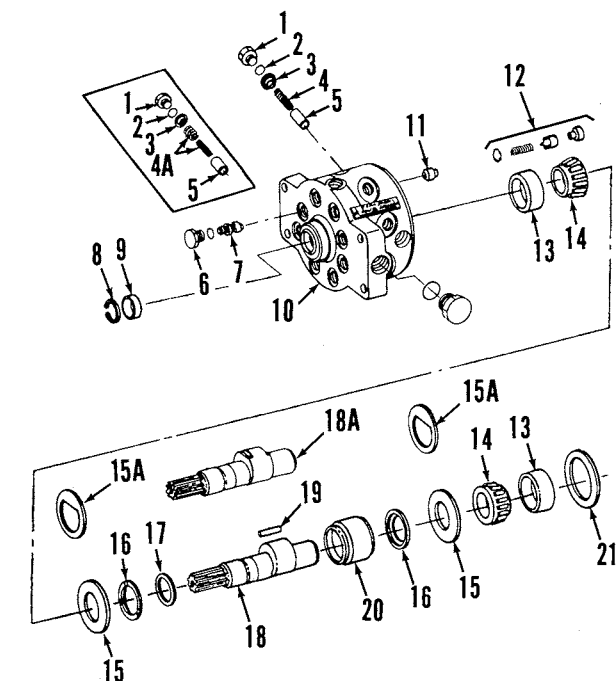

Fig. 229—Exploded view of main hydraulic pump used on all models. Refer to Fig. 232 for pump stroke control components.
218. OVERHAUL. Before disassembling the pump, write corresponding numbers on the pump housing and each of the piston plugs (1—Fig. 229) and scribe indexing marks on pump housing (10) and stroke control valve housing (25—Fig. 232) to ensure correct reassembly.
NOTE: The pistons (5—Fig. 229) must be reinstalled in their original bores if they are reused.
Assemble components onto pump shaft, if removed, making sure bearing cones are bottomed against shaft shoulders. Install a suitable protector, such as JDG-494, over splines of pump shaft. Start a new seal ring (17—Fig. 229) over spline protector, then use JDG-493 seal sizing tool, or similar tool, to push seal down the shaft and into shaft groove.